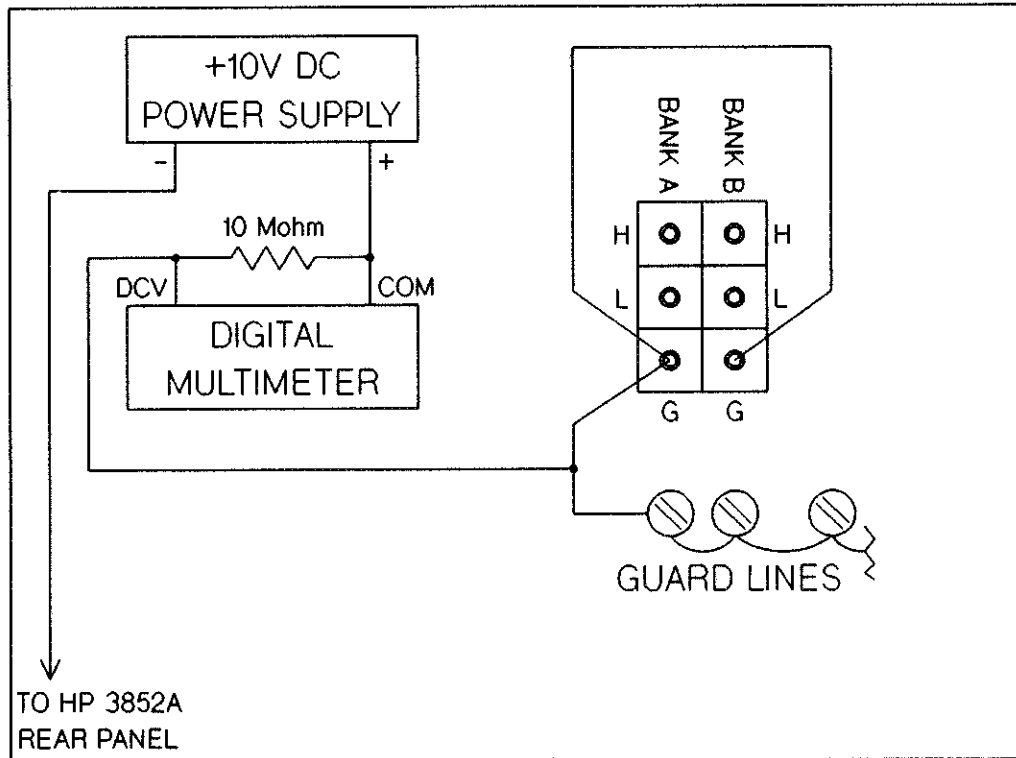

Figure 9-24 HP 44709A/44710A Closed GUARD Channel Test Set-Up
42. Refer to Figure 9-24. On the test fixture, connect the shorted GUARD lines to the Bank A common GUARD test point. Short the Bank A and Bank B common GUARD test points together.